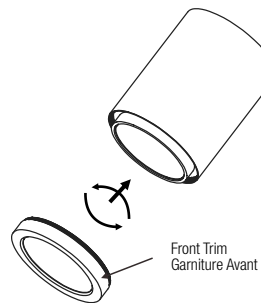

Fig. 5f
6. Screw the front trim in (Fig. 5f).
6. Visser la garniture avant (Fig. 5f).